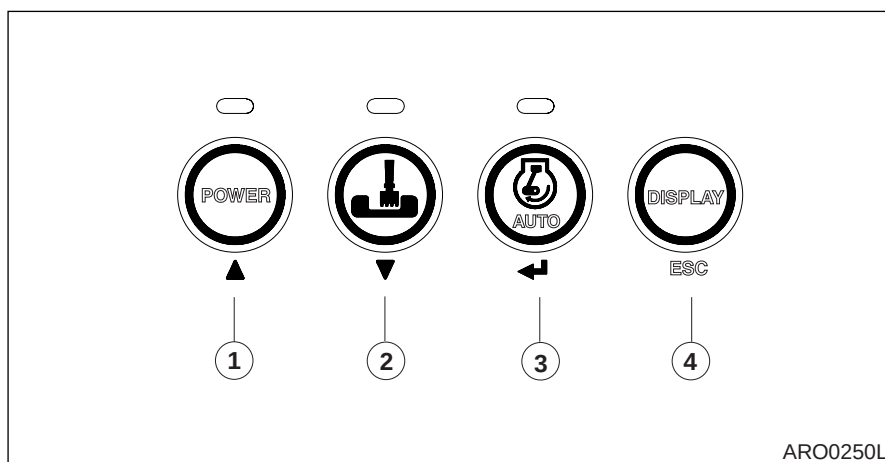

Figure 18
1. If escape button (ESC, 4 on Figure 18) is pressed for more than 1 second, the special menu screen will be returned to the normal mode screen.
Various sub-menus can be selected by pressing "Up (▲, 1 on Figure 18)" and "Down (▼, 2 on Figure 18)" button.
When the selected menu is inverse displayed, press the "Enter (↵, 3 on Figure 18)" button for menu selection.
1. Entering Sub-menus: When cursor is located on "Machine Info" of special menu screen, press "Enter (↵, 3 on Figure 18)" button and the "Machine Info Sub-menu" will be displayed.
2. Exiting Sub-menus: If escape button (ESC, 4 on Figure 18) is pressed for more than 1 second, display will be turned to previous sub-menu.
- Entering Sub-menus: When a cursor is located in "Failure Info" of special menu screen press enter button (↵, 3 on Figure 18) and "Failure Info" screen is displayed.
- Exiting Sub-menus: If escape button (ESC, 4 on Figure 18) is pressed for more than 1 second, this information screen will be returned to previous screen.